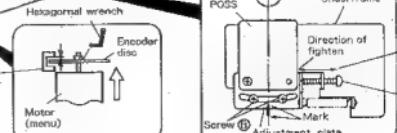
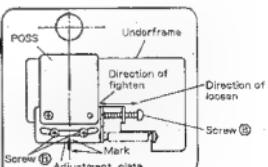
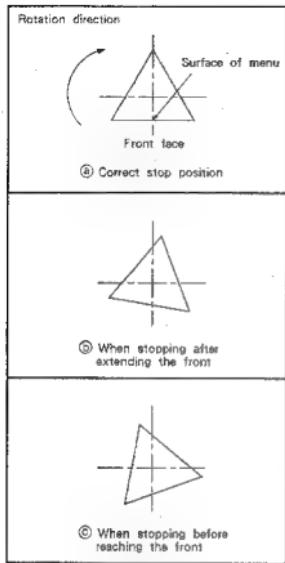

Fig. 7-2
Fig. 7-3
Fig. 7-4
- Loosen screw ② which holds the encoder disc using a hexagonal wrench.
- Loosen screw ② which holds the adjustment plate.
- (1) Set the gap between the encoder disc and photo interrupter of the motor (menu) to $1\frac{1}{16}$ mm. (Fig. 7-2)
- (2) Fix the screw of the encoder disc by tightening with a hex wrench.
- (3) Turn screw ② so that the carved mark on the adjustment plate aligns with the underframe. Then temporarily tighten screw ②.
- (4) Push the ROTATE MENU key on the front panel of the main unit so that menu rotates. Then, perform the following adjustments depending on the condition. (Fig. 7-3)
- Loosen screw ②, then tighten screw ② turning it clockwise.
- Loosen screw ② and turn screw ② counterclockwise to loosen it.
- (5) Turn the menu again and firmly tighten screw ② when the menu stops directing its surfaces to the front. (Fig. 7-4 ②)
- (6) Finally, turn the menu and check that the menu stops directing all of its three surfaces to the front at every 120° rotation.